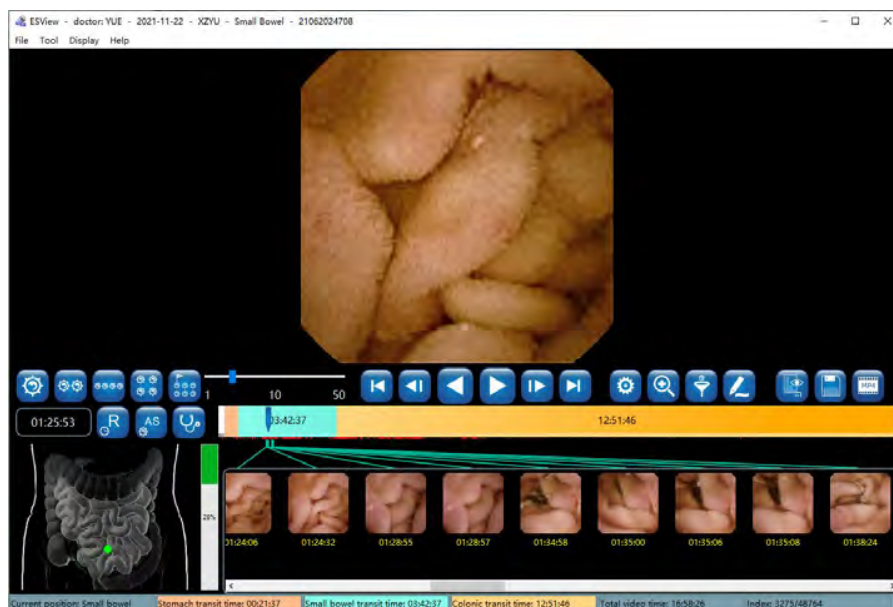

Figure 4-10: Video Playback Buttons
1. In the main software interface, click the forward or backward playback button (Figure 4-10) to play the loaded video in forward or backward direction.